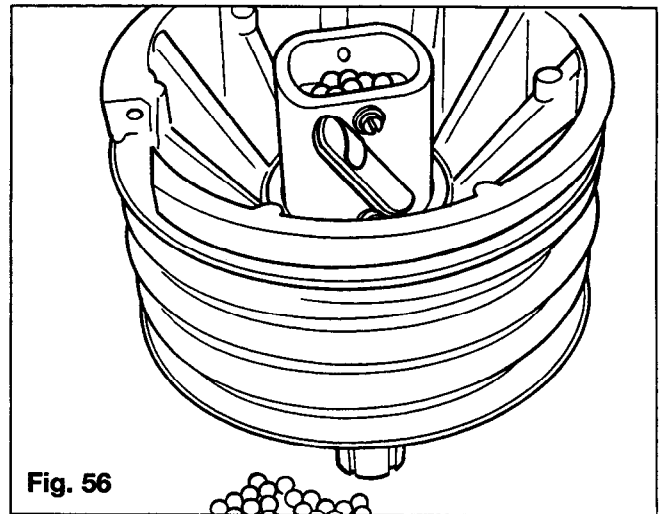

Fig. 56
5. With one hand holding the ball screw, rotate the reel down and up until all ball bearings have rolled into the tubes of the ball nut. Refer to Figure 56.